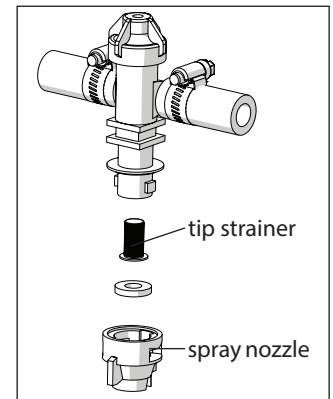

Figure 9: Nozzle breakdown
4. Tip strainers should also be taken out and rinsed after every use. Tip strainers are small screens that are located behind each spray nozzle on the boom (Figure 9).